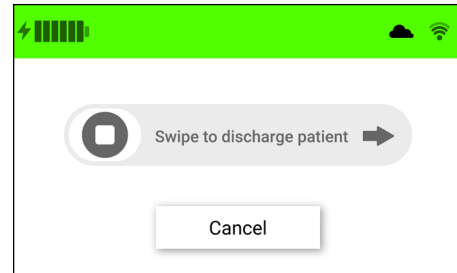

Figure 12. Confirm discharge screen
2. A confirmation screen will appear. Swipe to discharge the patient. (Fig. 12)